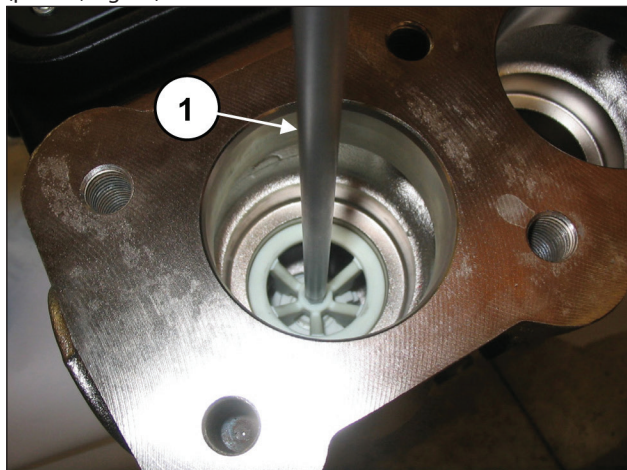

Fig. 93
Take out the valve guide spacer using an 8 mm hex wrench (pos. ①, Fig. 93).